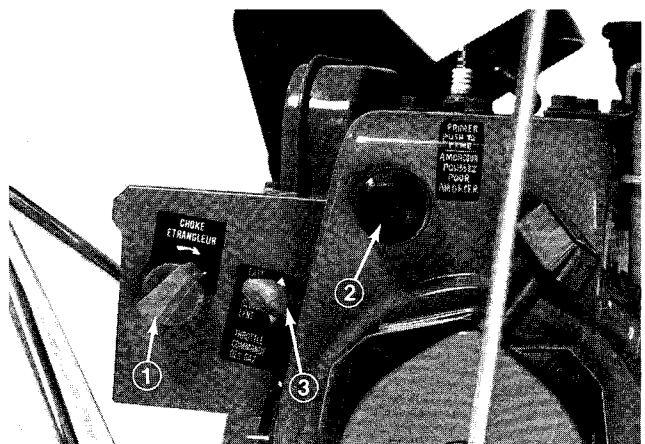

Figure 21
- Move throttle to FAST (Fig. 21).
- Rotate choke clockwise to full choke position (Fig. 21).
5. Depress primer (Fig. 21) five times.
7. After engine starts, immediately rotate choke (Fig. 21) to 3/4 position. As engine warms up,